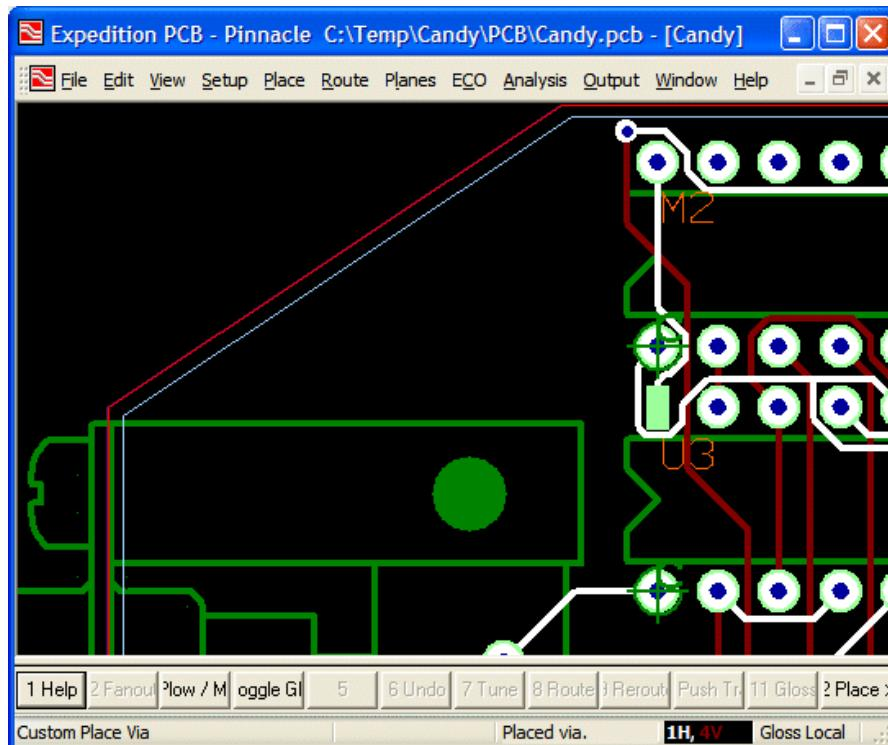

Figure 12-20. Zoom in on a blank area of the design.
- 4) Drag the *PutVia.vbs* script from your C:\Temp folder and drop it on top of the design. Observe that the "Custom Place Via" text appears in the *Prompt* field on the status bar as illustrated in Figure 12-20 (this was the string parameter we specified in Line 22).